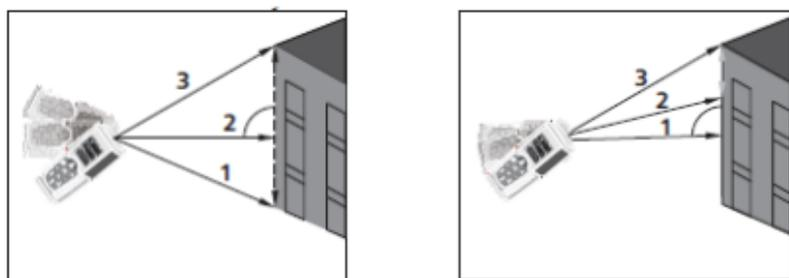

Fig. 8: Examples of indirect 3-point measurements
3. Position the instrument in the lowest point (1) of measurement (see Fig. 8) and press the  key. The result appears on the first partial display. The symbol "" appears on the display with side "2" flashing
- horizontally as possible (2) (see Fig. 8) and press the  key to measure. The result appears on the second partial display. The symbol “” appears on the display with side “3” flashing
5. Position the instrument in the highest point (3) of measurement (see Fig. 8) and press the  key to measure